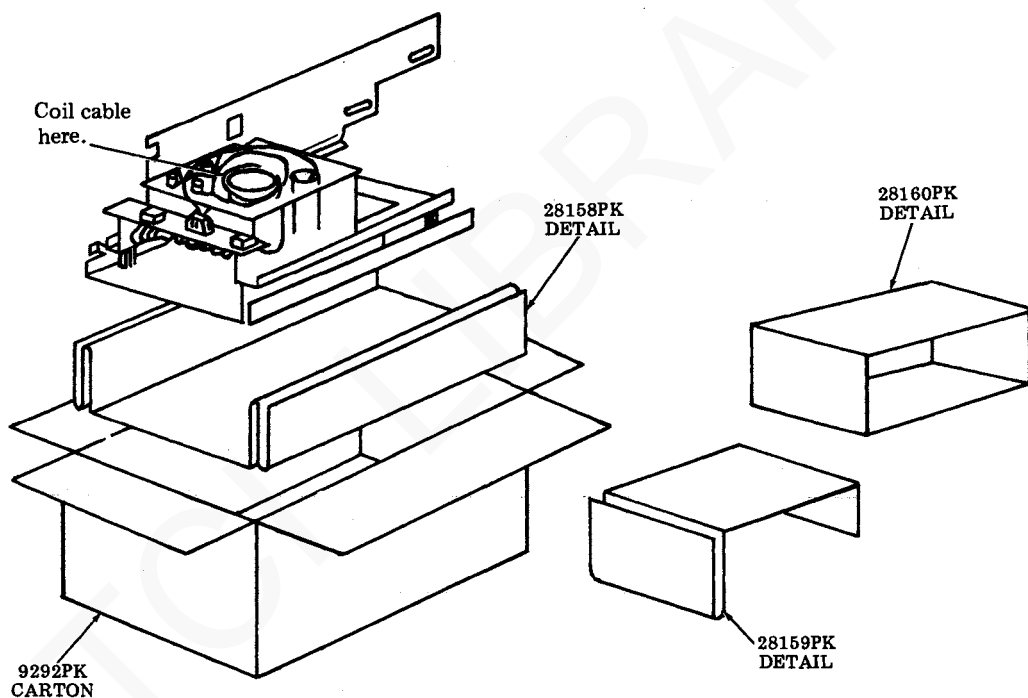

Fig. 45
- Step 5. Form a 28160PK detail and place it in the void area as shown in Fig. 45.